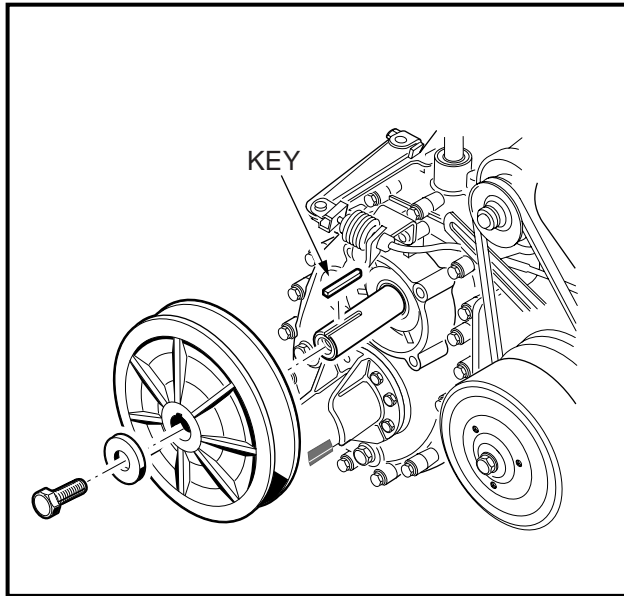

Figure 16-98 Driven Clutch
11. Install the key onto the input shaft (**Figure 16-98, Page 16-41**).
12. Position the driven clutch on the transaxle input shaft and install the washer (yellow side facing out) and mounting bolt. Tighten the mounting bolt to 14 ft-lb (19.0 N·m) (**Figure 16-98, Page 16-41**).